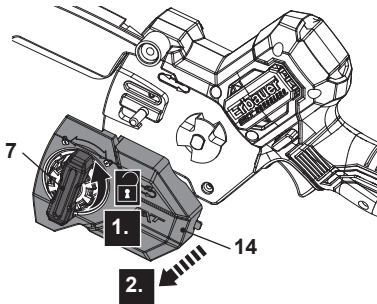

Fig. 1
2. Unscrew the locking wheel (7) anticlockwise and then remove it together with the guard saw cover (14) (Fig. 1, steps 1, 2).